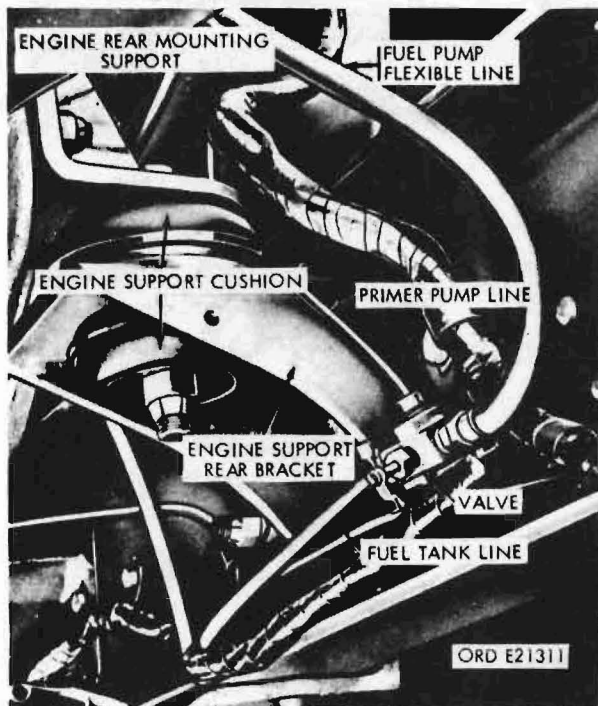

Figure 37. Fuel line shutoff valve.
(22) *Fuel-line shutoff valve (gasoline engine vehicles only)* (fig. 37). The fuel line shutoff valve, located on the left side of the vehicle ahead of the engine left rear mount, is turned right (clockwise) to close the valve, and left (counter-clockwise) to open the valve. This valve is used to isolate the fuel tank from the remainder of the fuel system during repairs to the system.